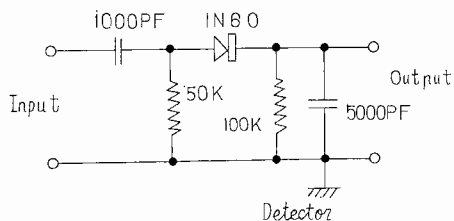

Figure 13 Detector
- 2) Connect the output of the sweep generator to Pin 11 of V5 (15 BD11) and insert the detector shown in Fig. 13 between the oscilloscope and the cathode of CRT.